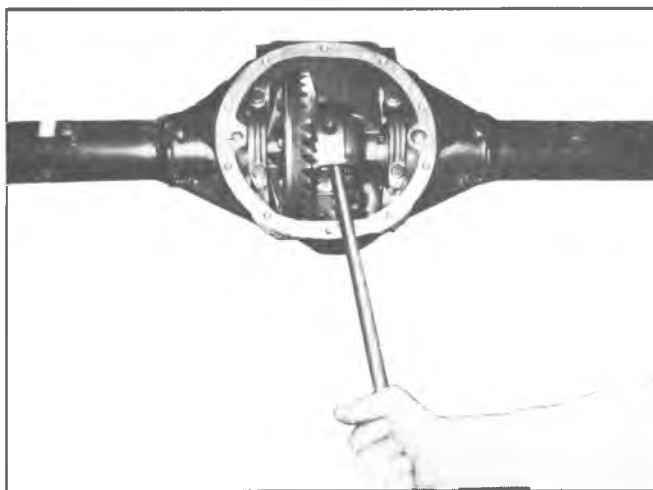

Fig. 2B—Differential Case Removal
5. Using a pry bar as shown in Figure 2B, pry differential case out of carrier. Exercise caution in prying on carrier so that gasket sealing surface is not damaged. If the bearings are preloaded, the case will suddenly fall free when it is pried past a certain point; therefore, make sure case is properly supported to prevent damage. The bearing caps may be loosely installed, as shown in Figure 2B, to prevent case from falling.